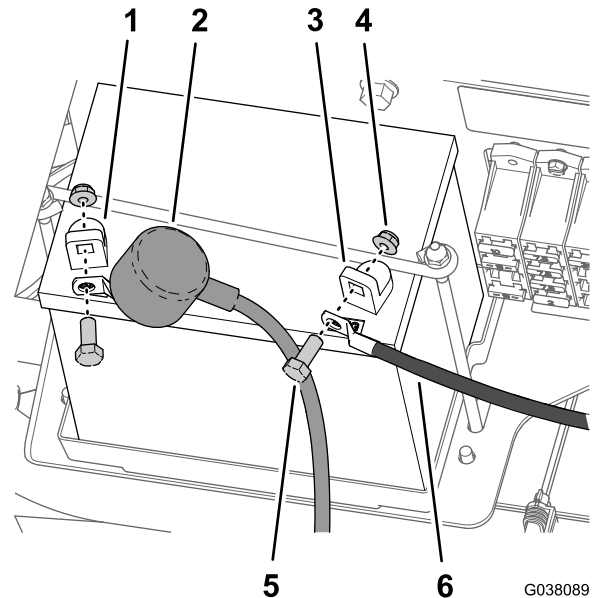

Figure 4
6. Disconnect the negative (black—ground) cable from the battery post (Figure 4).
7. Slip back the insulator cover the disconnect the positive (red) cable from the battery post (Figure 4).